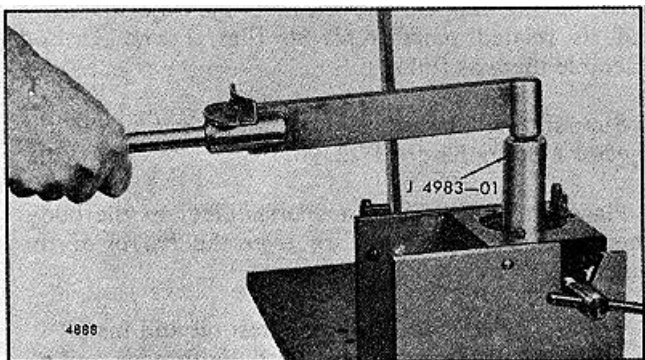

FIG. 34 Tightening injector Nut with Torque Wrench using Tool J 4983-01
6. Use socket J 4983-01 and a torque wrench to tighten the injector nut to 55-65 lb-ft (75-88 Nm) torque (Fig. 34).